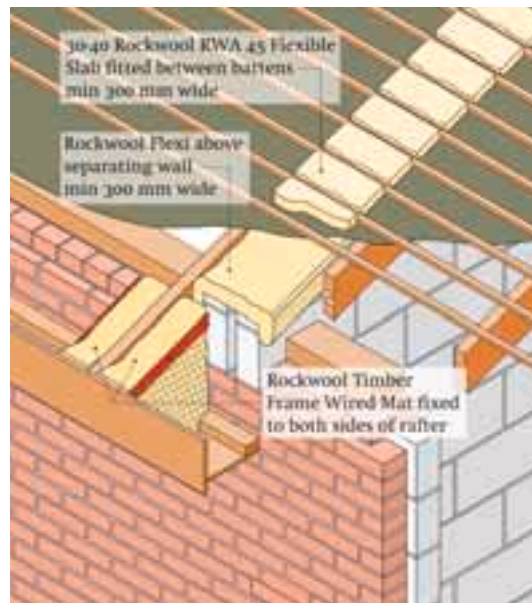

Figure 6
Rockwool Flexi can also be used to firestop small voids, in particular the gap between the top of separating walls and roof structures (see fig 6).
- 3 At junctions between the top of separating walls and under roofing felt, Rockwool Flexi may be used, min 300 mm wide (see Figure 6). For fire stopping between tile battens and tiles, 30 or 40 mm Rockwool RWA45 slabs may be used, min 300 mm wide (select thickness only slightly greater than the depth to be filled).
- 4 Within boxed eaves at separating wall position (see Figure 6), Rockwool Timber Frame Wired Mat is used in this application.